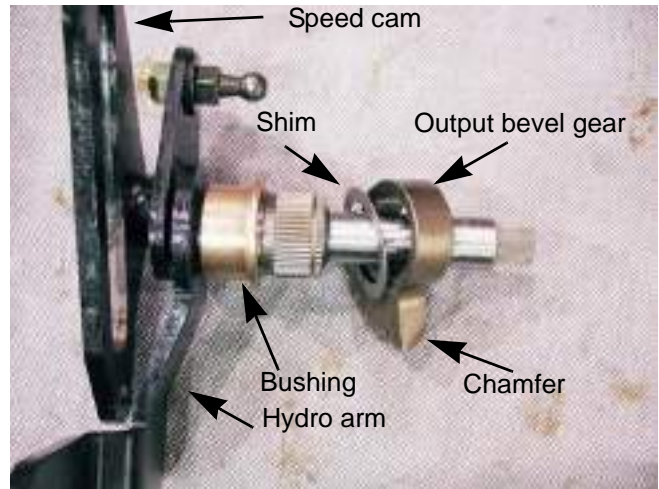

Figure 6A.59
- 9c. Place a .030" shim over the hydro arm. See Figure 6A.59.